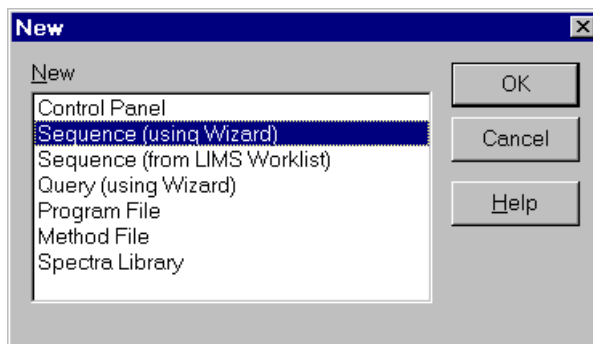

Figure 47. Creating a New Sequence
3. In the Browser, select **File>New** and select **Sequence (using Wizard)** (see Figure 47).